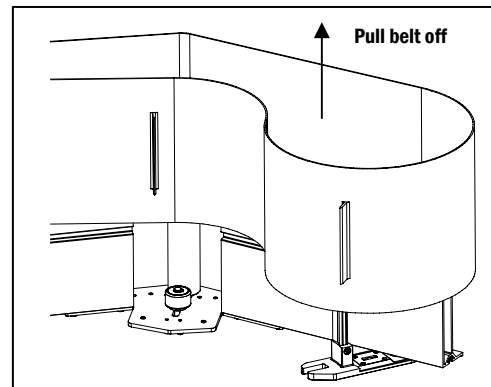

Figure 13
l. Work down the length of the conveyor, continuing down toward the tail end. Finish by sliding the belt off at the tail end of the conveyor (Figure 13).